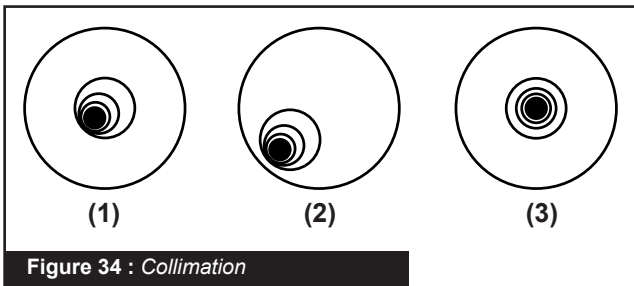

Figure 34 : Collimation
- b. While looking at the defocused star image, notice which direction the darker shadow is offset in the ring of light or notice which part of the ring is the thinnest (**Fig. 34, #1**). Place your index finger in front of the telescope so that it touches one of the collimation set screws. You will see the shadow of your finger in the ring of light. Move your finger around the edge of the black secondary mirror support until you see the shadow of the finger crossing the thinnest part of the ring of light. At this point, look at the front of the telescope where your finger is aiming. It will either be pointing directly at a set screw, or it will be between two set screws aiming at the set screw on the far side of the black secondary mirror support. This is the set screw that you will adjust.
- c. Using the AutoStar II’s Arrow keys at the slowest slew speed, move the defocused image to the edge of the eyepiece field of view (**Page 23, Fig. 34, #2**), in the same direction as the darker shadow is offset in the ring of light.
- f. When you bring the image to center (**Page 23, Fig. 34, #3**), carefully examine the evenness of the ring of light (concentricity). If you find that the dark center is still off in the same direction, continue to make the adjustment in the original turning direction. If it is now off in the opposite direction, you have turned